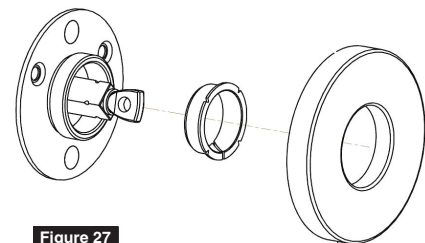

Figure 27
4. Install bushing into outside adapter plate then thread rose onto adapter plate. (Figure 27)